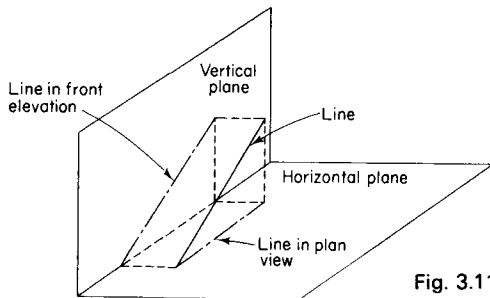
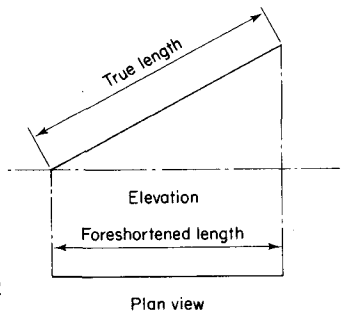

Fig. 3.111
Fig. 3.112
**True length of a line.** Fig. 3.111 shows an inclined line which has been drawn parallel to the vertical plane. As shown in Fig. 3.112 the elevation gives the true length of the line but the plan view shows a foreshortened length.